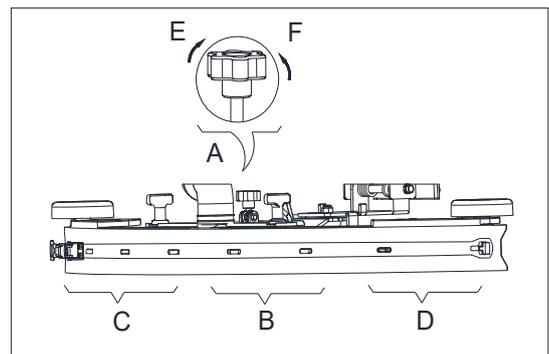

Figure 5
3. Adjust the squeegee by squeegee adjusting handle (A, Figure5).
- a) If there is gap between the ground and middle section of rear squeegee blade (B), adjust the knob (A) in counterclockwise direction (F) until all section of rear blade good touches with the ground, the front blade touch the ground slightly.
- b) If there is gap between the ground and both end section of rear squeegee blade(C and D), adjust the knob(A) in clockwise direction (E) until all section of rear squeegee blade good touch with the ground, the front blade touch the ground slightly.